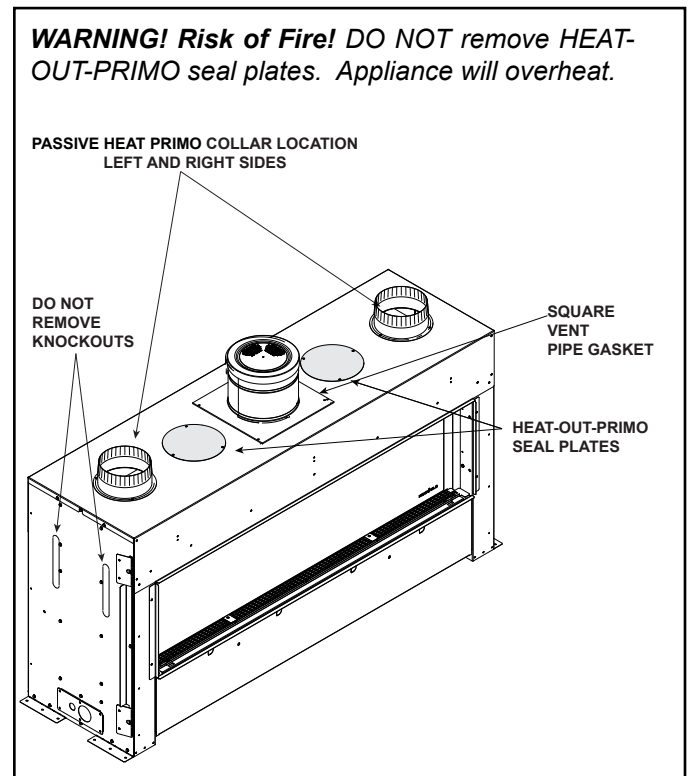
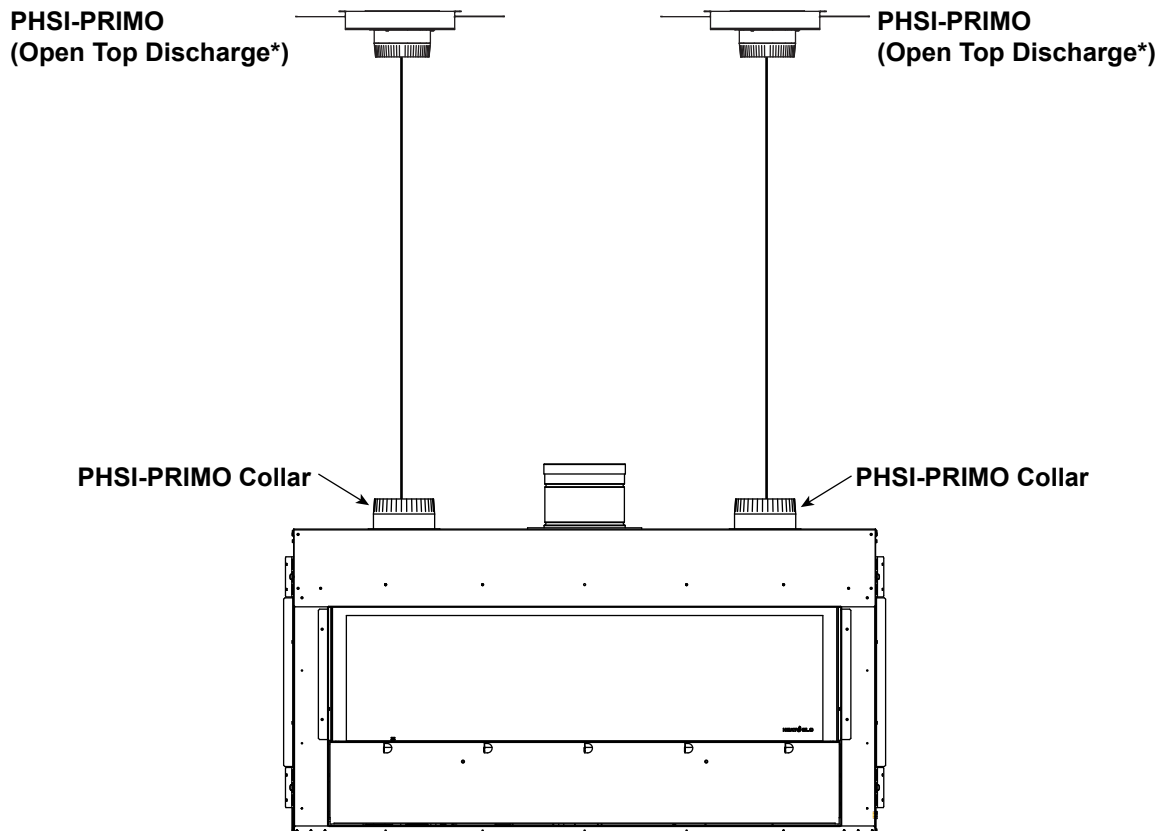

Figure 8.2 Remove PRIMO Passive Heat Seal Plates
Figure 8.1 PRIMO Passive Heat Open Top Discharge Configuration / Remove PRIMO Passive Heat Seal Plates
1. Remove the two outer passive heat seal plates. See Figure 8.1 and Figure 8.2. Install collars over the openings using hurricane screws provided in the kit.